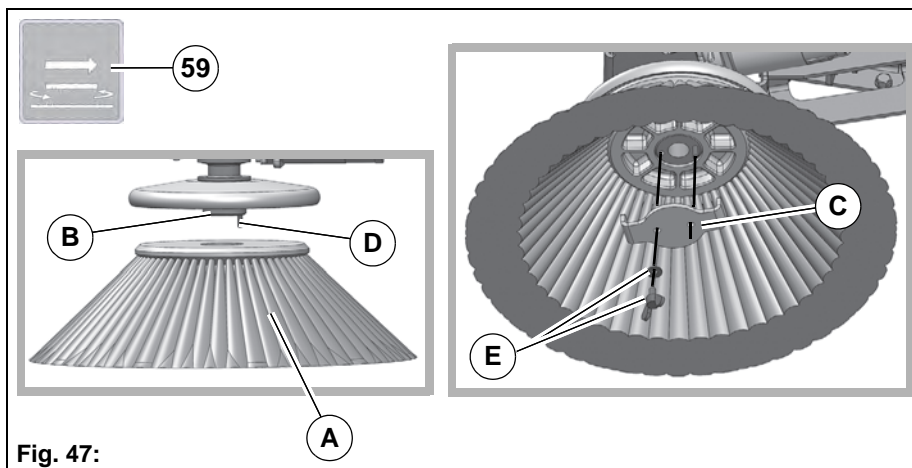

Fig. 47:
3. Fit the side brush **Fig. 47-A** to the hub **Fig. 47-B**.
4. Position the carrier plate **Fig. 47-C** in such a way that the pin of the hub **Fig. 47-D** goes through the hole of the carrier plate and the carrier plate is sitting firmly in the holder.
5. Secure carrier plate to hub with washer and wing bolt **Fig. 47-E**.